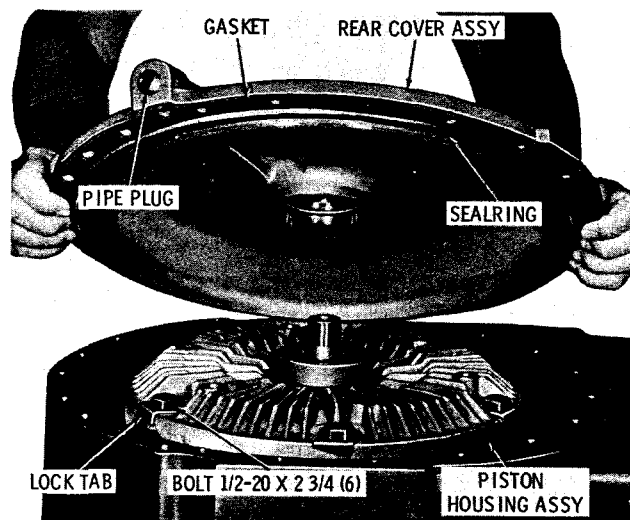

Fig. 7-29. Installing transmission rear cover
(2) Using a soft hammer, seat the piston housing in the counterbore of the drive gear, and install the six locktabs and six 1/2-20 x 2 3/4-inch bolts (fig. 7-29). Tighten the bolts to 83 to 100 pound feet (113 to 135 Nm) torque. Bend the locktabs against the bolt heads.
(1) If the transmission is equipped with a speedometer drive assembly, install washer 12 (B, foldout 6) into drive sleeve 13. Install lip-type oil seal 11, metal side first, into drive sleeve 13. Press the seal to 0.035 to 0.065 inch (0.88 to 1.65 mm) below the front surface of the drive sleeve.
(2) Install gasket 7, speedometer drive adapter 8, gasket 9, and sleeve assembly 10 onto rear cover 4. Retain the speedometer components with two 5/16-18 x 2 1/4-inch bolts 15 and lockwashers 14. Tighten the bolts to 13 to 16 pound feet (18 to 21 Nm) torque.
(3) If the pipe plug was removed from the rear cover, replace it (fig. 7-29). Apply nonhardening sealant onto the plug threads and install the plug into the rear cover. Tighten the plug sufficiently to prevent leakage.
(4) Lubricate the sealring and install it into the groove in the rear cover pilot diameter (fig. 7-29). Apply oil-soluble grease onto the gasket and install the gasket onto the rear cover pilot diameter. Install the rear cover onto the transmission housing and retain it with nineteen 3/8-16 x 1 1/8-inch bolts and lockwashers. Tighten the bolts to 26 to 32 pound feet (35 to 43 Nm) torque.